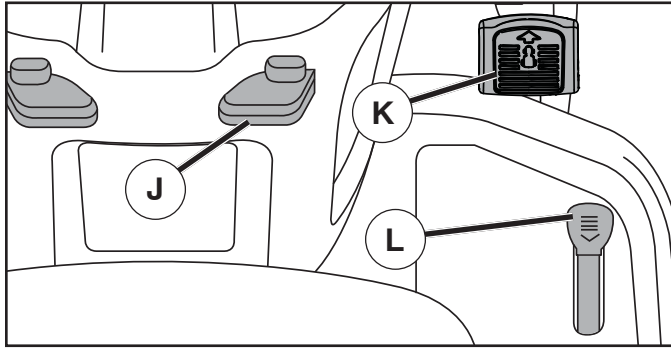

Fig. 20
(See Fig. 20)
- Slowly depress forward (K) or reverse (L) drive pedal to begin movement. Ground speed increases the further down the pedal is depressed.
TO USE CRUISE CONTROL (J) (See Fig. 20)